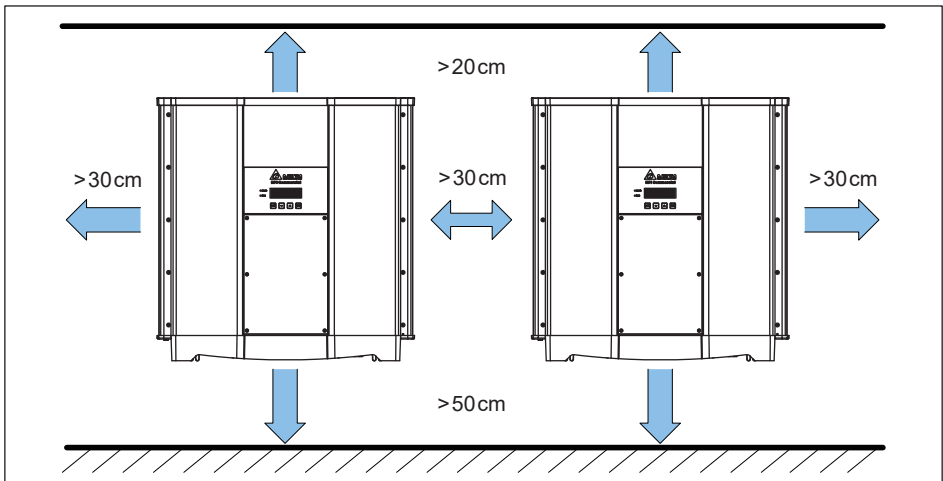

Figure 3-5 : Proper installation gap
- Please leave an appropriate gap in between units when installing several solar inverter systems as shown in **Figure 3-5**.